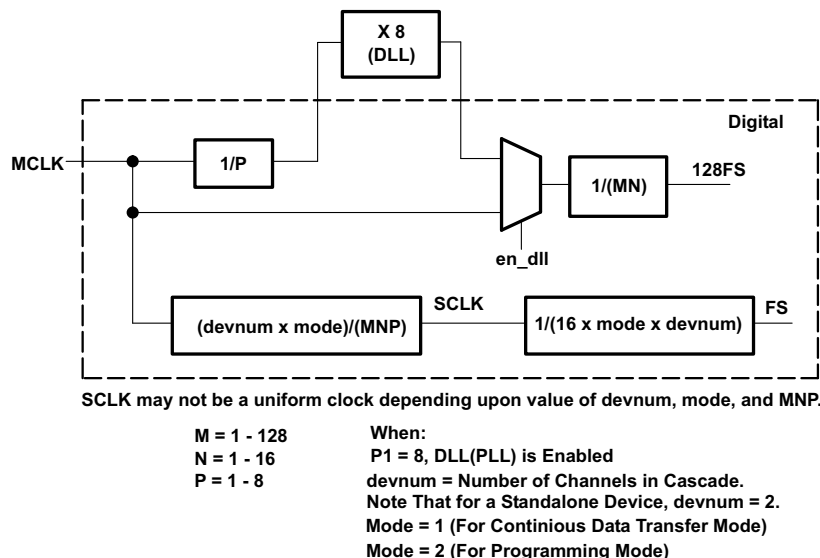

Figure 18. Clock Timing
5. The fine sampling rate needs an on-chip phase lock loop (frequency multiplier) to generate internal clocks. The output of the PLL is only used to generate internal clocks that are needed by the data converters. Other clocks such as the serial interface clocks in master mode are not generated from the PLL output. The clock generation scheme is as shown in Figure 18. The PLL requires the relationship between MCLK and P to meet the following condition: $10 \text{ MHz} \leq (MCLK/P) \leq 25 \text{ MHz}$.